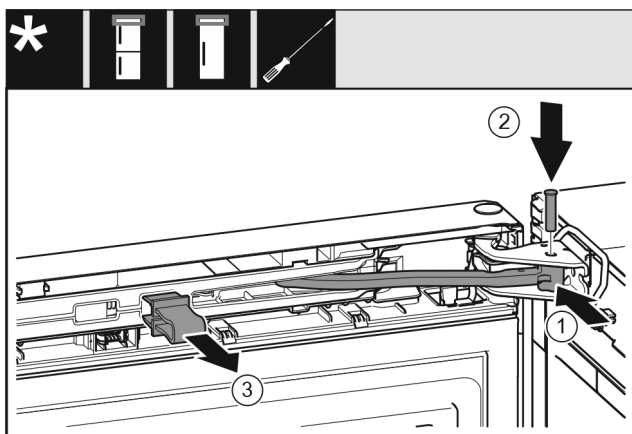

Fig. 45
- ▶ Turn the joint *Fig. 45 (1)* in the bearing block.
- ▶ Insert the bolt *Fig. 45 (2)* into the bearing bracket and joint. Ensure that the latching cam is in the groove properly.
- ▶ Remove the safeguard *Fig. 45 (3)*.